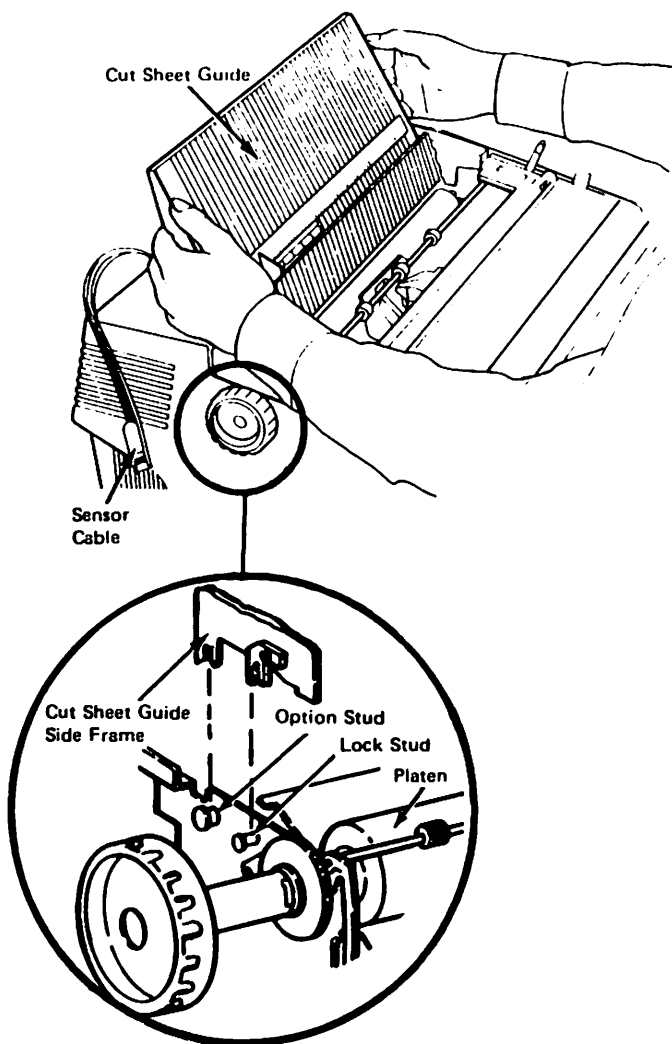

Figure 5 Installing cut sheet guide
5. Position the cut sheet guide on the printer so that the slots in the cut sheet guide frames engage the Option Stud and Lock Stud on each printer side frame (Figure 5). Apply pressure downward on each side to seat the unit in place.